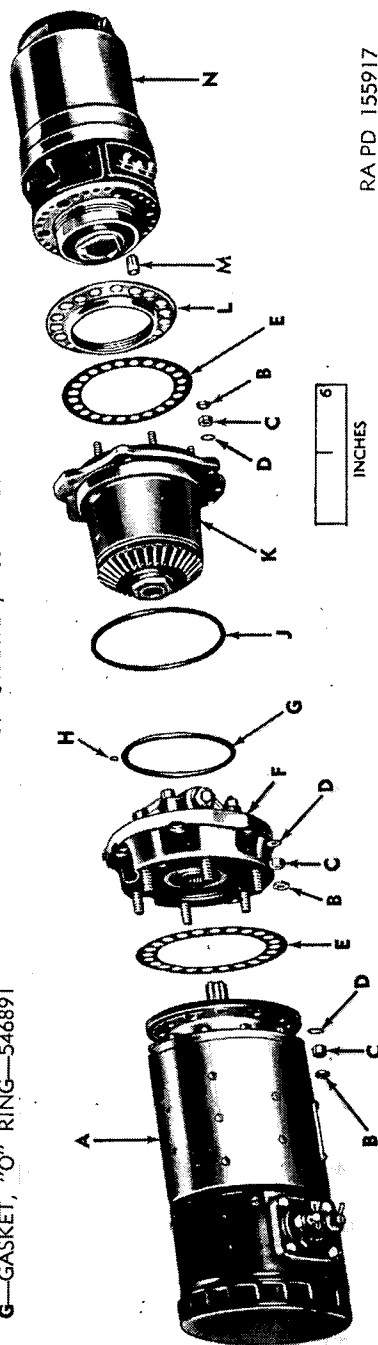

Figure 47. Starter, generator, and drive assemblies—exploded view.
- (5) Install the generator drive assembly (F, fig. 47) with a new "O" ring gasket (H) on the generator drive assembly oil transfer tube, located on the accessory case mounting pad for the assembly, and a new "O" ring gasket (G) on the generator drive assembly. Secure with plain washers (D), hex-head nuts (C), and jam nuts (B).
- (6) Install the starter drive assembly (K, fig. 47) with a new "O" ring gasket (J). Secure with plain washers (D), hex-head nuts (C), and jam nuts (B, fig. 47).